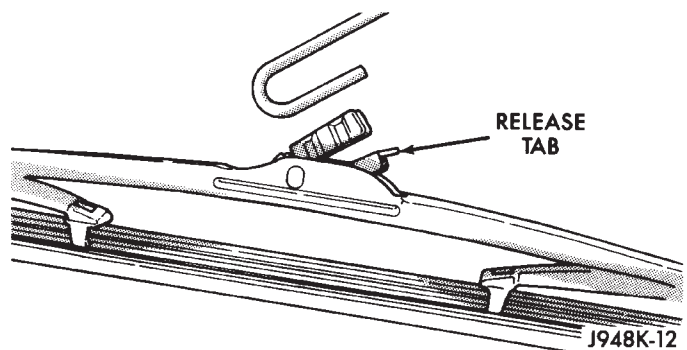

Fig. 4 Wiper Blade Remove/Install - Typical
(a) To remove the wiper blade from the wiper arm, push the release tab under the arm tip and slide the blade away from the tip towards the pivot end of the arm (Fig. 4).
(1) Lift the rear wiper arm to raise the wiper blade and element off of the liftgate glass.
(2) Push the release tab under the arm tip and slide the blade away from the tip towards the rear wiper motor output shaft end of the arm (Fig. 4).
(3) To install the wiper blade on the wiper arm, slide the blade retainer into the U-shaped formation on the tip of the wiper arm until the release tab snaps into its locked position. Be certain that the pinch-release clip for the wiper element is oriented towards the end of the wiper blade that is nearest to the rear wiper motor output shaft.